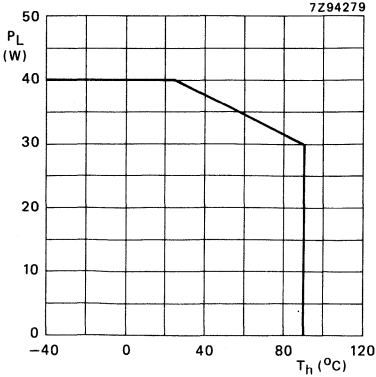

Fig. 2 Load power derating; VSWR = 1 : 1.
* With respect to the flange. ** See Fig. 2.